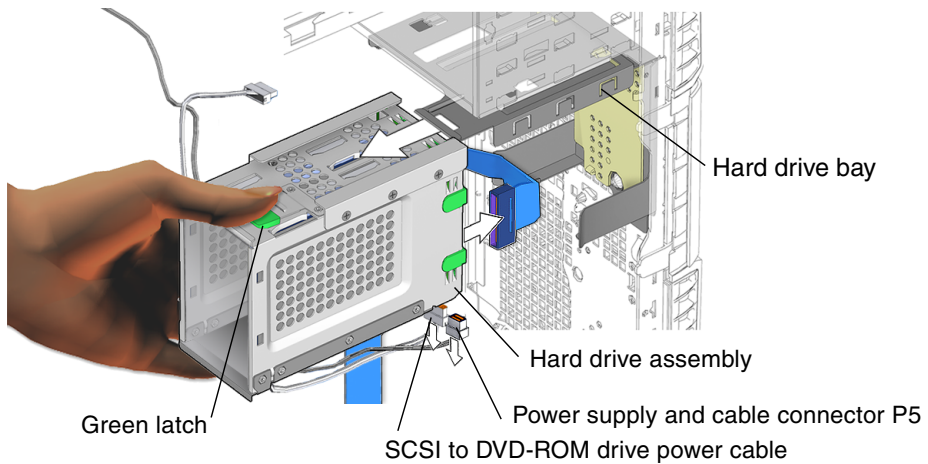

FIGURE 13-25 Releasing the Hard Drive Bracket
5. Release the hard drive assembly from the hard drive bay (FIGURE 13-25)